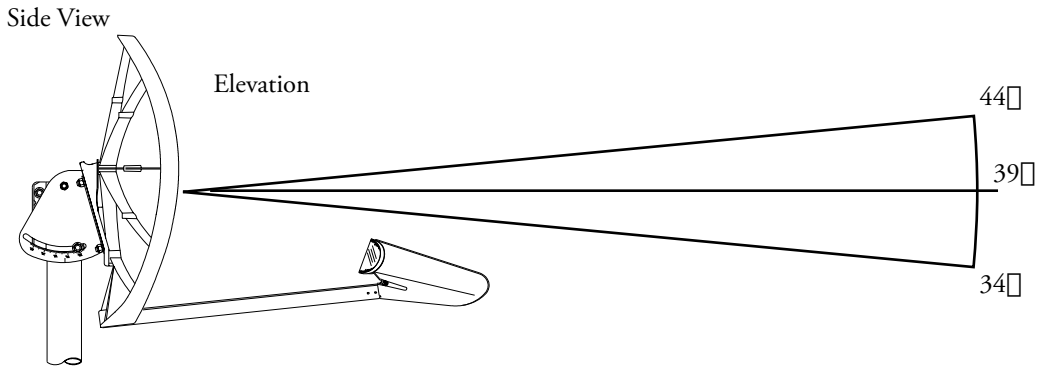

Figure 5-4. Elevation and azimuth pointing windows
1. Determine the azimuth and elevation window ranges. In our example, magnetic azimuth is 220 degrees and elevation is 39 degrees. The azimuth window is within 215 to 225 (220 ± 5) degrees and the elevation window is within 34 to 44 (39 ± 5) degrees (see figure 5-4).
2. Rotate the antenna in elevation until the elevation scale pointer reaches 5 degrees below the calculated elevation that the software provided. In our example (see figure 5-4), this value is 34 degrees (5 degrees below the calculated value of 39 degrees). Tighten the elevation nuts.